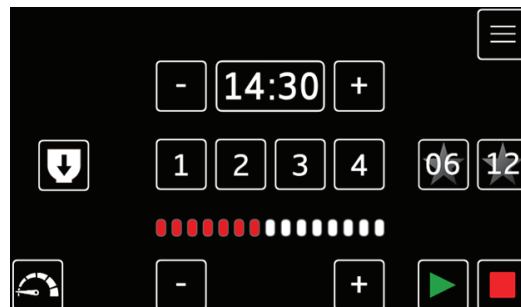

Figure 18-2.
1. Press the “star” button to select one of the programmed favorite recipes. (Figure 18-2).